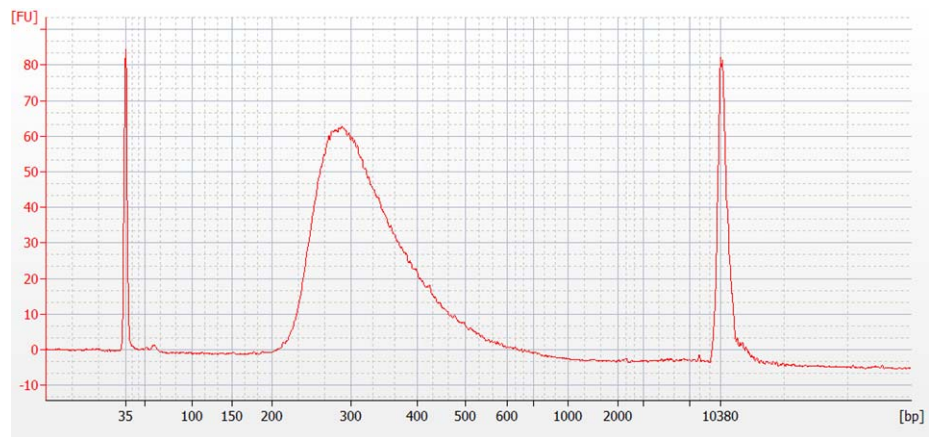

Figure 10 Analysis of indexed DNA sample using a High Sensitivity DNA Bioanalyzer assay.
- 4** Verify the results. Check that the electropherogram shows a distribution with a fragment size peak between approximately 250 to 300 bp. A sample electropherogram is shown in Figure 10.